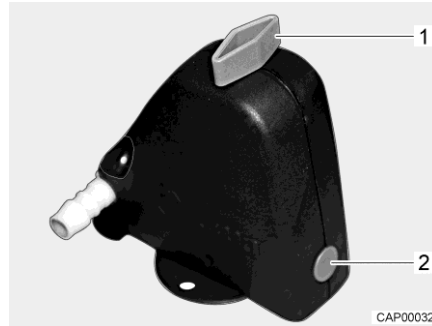
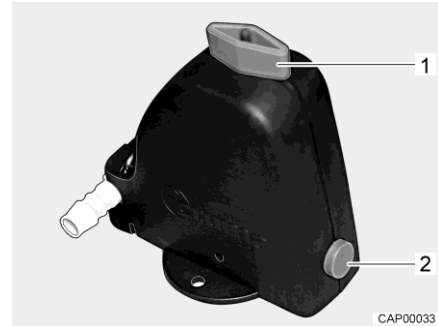

Fig. 157 Safety/drainage valve closed
Fig. 158 Safety/drainage valve open
- Open the safety/drainage valve (Fig. 157). To do this, turn the knob (Fig. 157,1) parallel to the safety/drainage valve. The push button (Fig. 157,2) jumps out. The open safety/drainage valve is shown in Fig. 158.